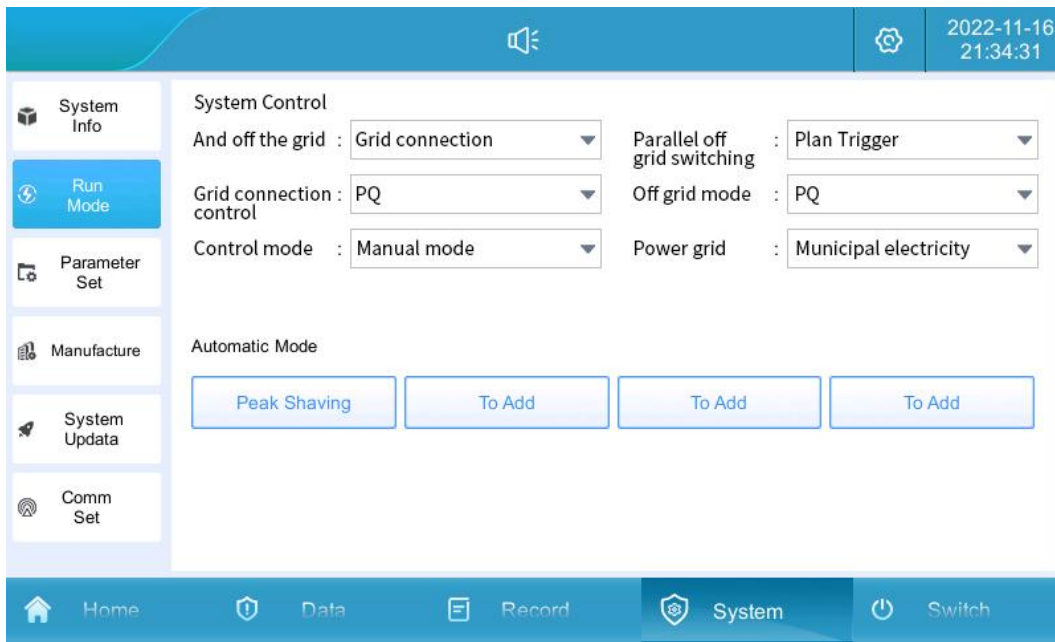

Figure 5-7 Grid-connected manual mode setting
1、 Click “System” -> “Run Mode” mode to enter Figure 5.7.